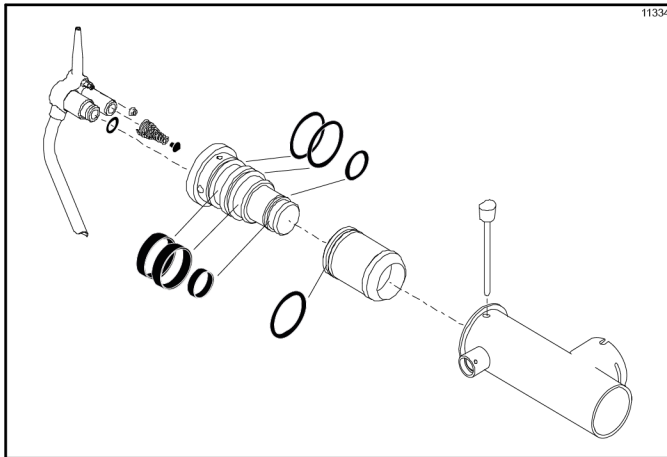
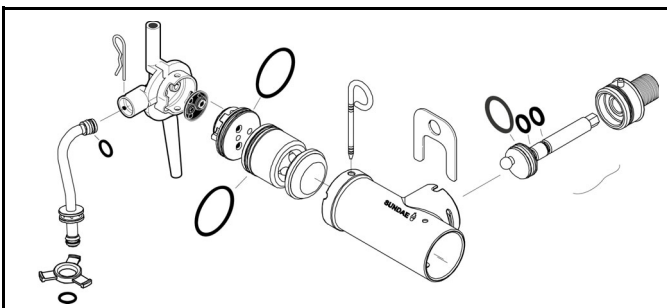

Figure 6-60 Coaxial Pump
Figure 6-61 Simplified Pump
- From the pump cylinder, remove the retaining pin, liquid valve body, piston, mix inlet tube, spring, and poppet. Remove all O-rings and check rings. (See Figure 6-60.)(See Figure 6-61.)